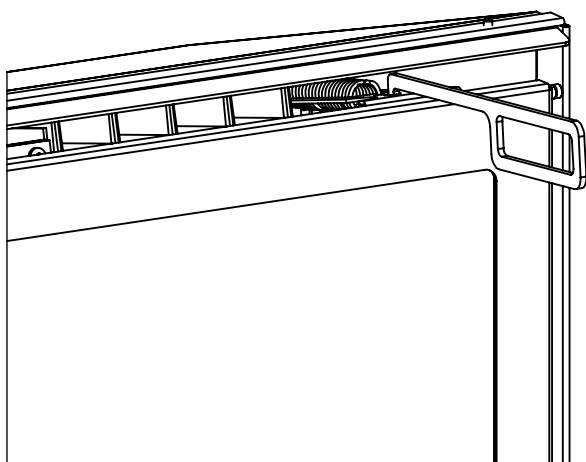
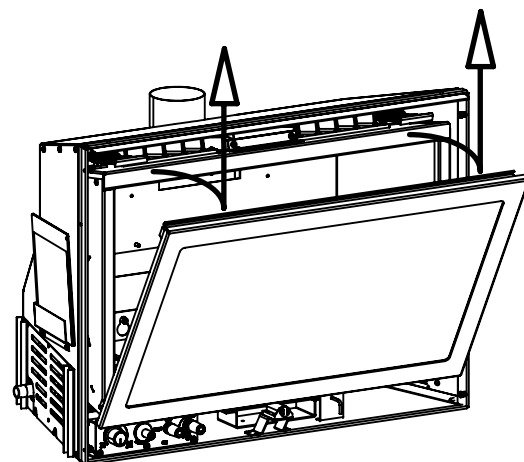

Figure 8: Door Release.
Figure 9: Door Removal.
Remove the glass door by placing the hooked end of the door release tool in the hole on the door latch mechanism (see Figure 8) and pulling the latch out then over to the center of the unit. When the two (2) latches have been released, tilt the door forward and then lift up to unhook the bottom door tabs (see Figure 9).